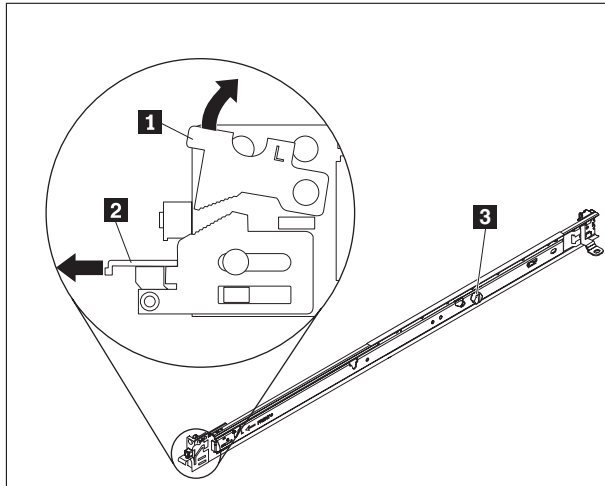

Figure 9. View of the slide rails
1. Open the front slide rail latches, as shown in Figure 9 on page 20.